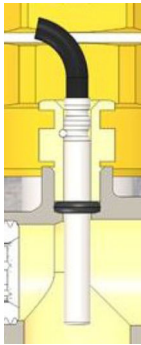

Fig. 32: Releasing the temperature sensor
3. ➤ To remove the temperature sensor (Fig. 32), release the M10 bolt.